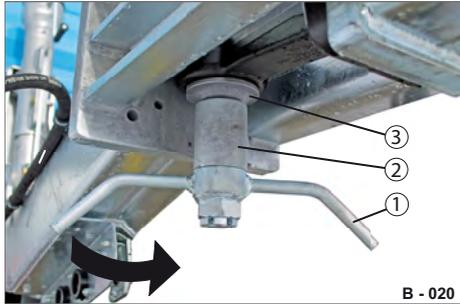

Fig. 29 Towing eye locked at bottom
- ▶ Unscrew the wing nut (Fig. 29/1) completely.
- ▶ Remove the spacer sleeve (Fig. 29/2) and the shield rest (Fig. 29/3).